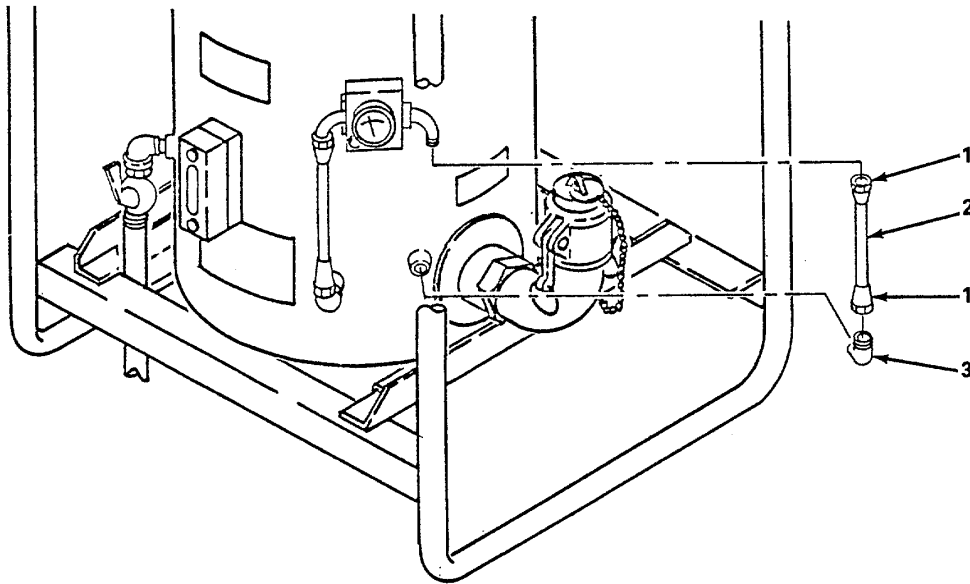

Figure 4-10. Tube Assembly, Replace.
- (1) *Tube assembly.* (figure 4-10)
- (a) Loosen two coupling nuts (1) and remove tube assembly (2).
- (b) Remove elbow (3).
- (c) Apply sealing compound to threads on elbow (3).
- (d) Install elbow (3).
- (e) Install tube assembly (2) and tighten two coupling nuts (1).